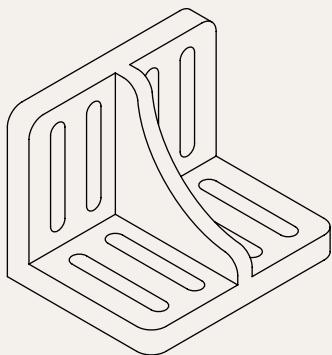

**Fig. 7.28** Exercises 4 and 5 – orthographic projections of the three parts of the tool holder
- Construct a three-view orthographic projection in an angle of your own choice of the tool holder assembled as shown in the isometric drawing **Fig. 7.28**. Details are given in **Fig. 7.29**.
5. Construct an isometric drawing of the body of the tool holder shown in Figs 7.28 and 7.29.